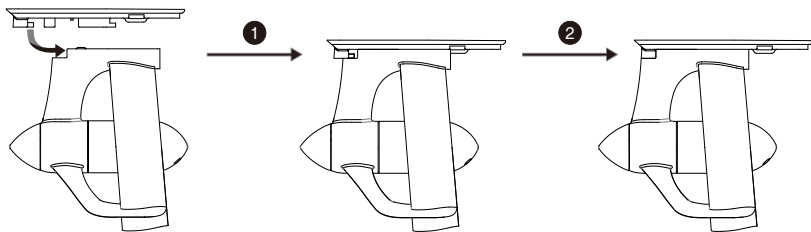

Figure 3-3
- 1) Attach an inflatable SUP fin box adapter onto the motor base (Figure 3-3). First align the adapter with the motor base; then insert the adapter into the motor base until it is well attached.